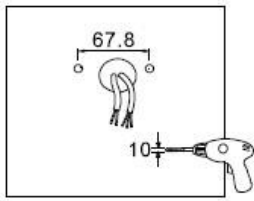

Figure 9
- Step 1. Drill holes on the wall as shown in the drill pattern (Figure 9).